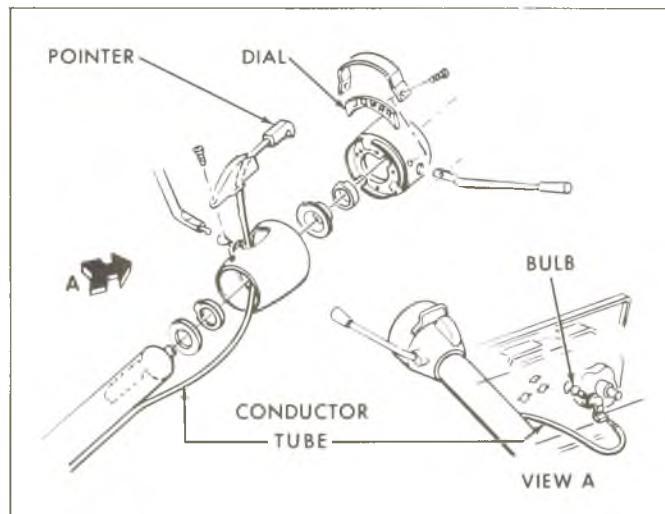

Fig. 100—Conductor Tube for Automatic Transmission Indicator
- Standard Column with Automatic Transmission - Connect the conductor tube (for transmission indicator) at the instrument panel (fig. 100).